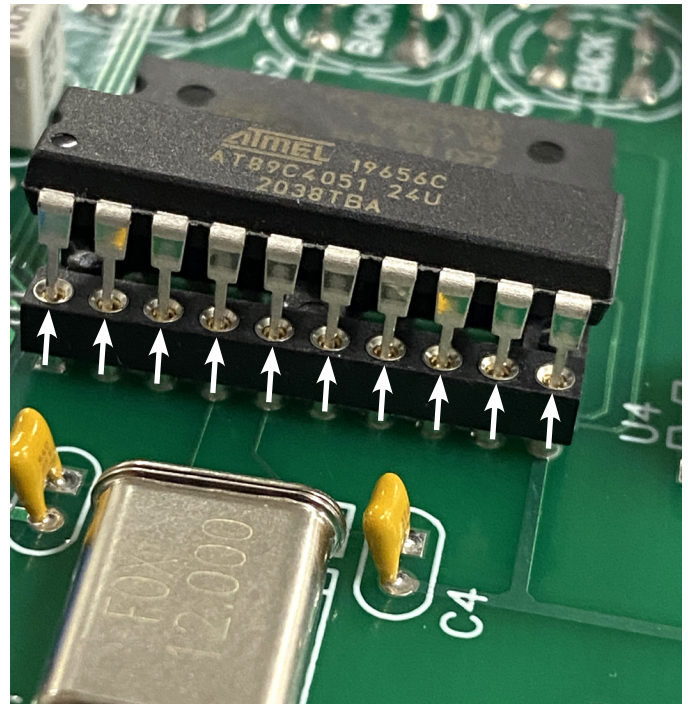

FIGURE 6—The white arrows show the pin-to-hole alignment.
7. Place the new chip on top of the connector on the board and make sure that the chip pins on both sides of the chip align with the holes on the board (see Figure 6).